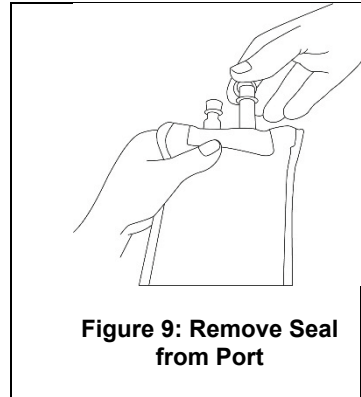

Figure 9: Remove Seal from Port
5. Most IV bags have two ports. Locate the port you will use as instructed by your healthcare provider. Pull the seal off the port. See Figure 9.